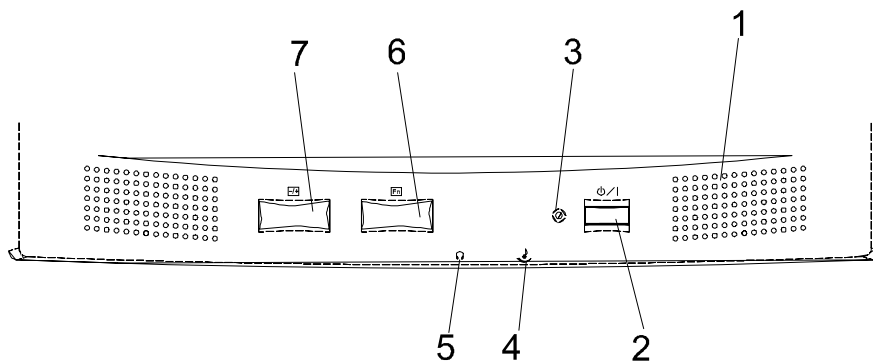

Figure 3-1: Function Controls and Indicator
3. Sound volume of the stereo speakers can be adjusted from the volume control knob located at the central button of LCD monitor front bezel. (*Please see Figure 3-1, page 11 & 12 for location & description of Speaker Volume Control and External Headphone Jack*)
3. Press LCD Monitor's DC Power Switch which is located at the front bezel. (Please refer to *Figure 3-1* at page 11 & 12 for description of DC Power Switch and DC Power-On Indicator.)
Operation of LCD Monitor is quite simple due to its intuitive, ergonomic design. A description for each of LCD Monitor function controls and indicator is provided below. *Figure 3-1* shows the function controls as seen on the front panel of the Monitor.